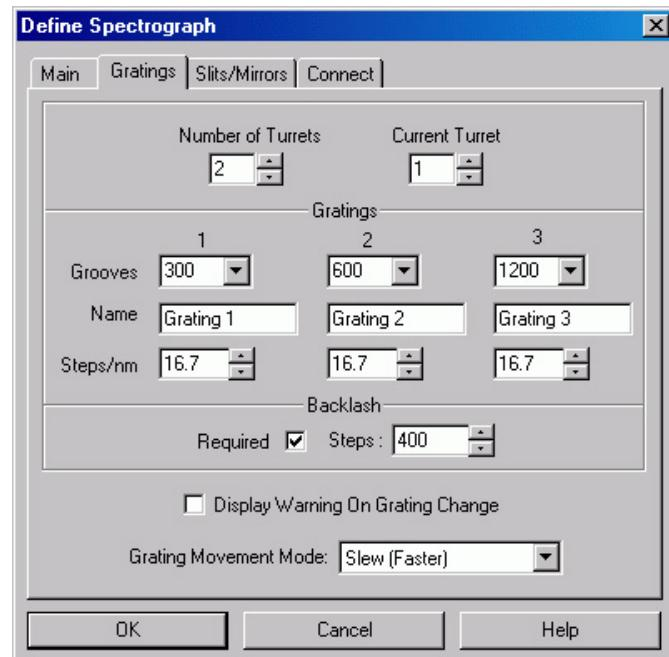

Figure 25. *Gratings* tab page
5. Set the connection preferences according to the requirements of your spectrograph. For Acton Spectrographs, use the settings shown in Figure 25.
The grating values are required for the dispersion calculation and for the selection of the active grating. Some spectrographs have interchangeable grating turrets, each able to mount up to 3 gratings. Where this is the case, the grating information may have to be separately specified for each turret that may be installed. These parameters are specified on the **Gratings** tab page (Figure 25) of the Define Spectrograph dialog box. *In the case of automated Acton spectrographs, the grating information is automatically supplied.*